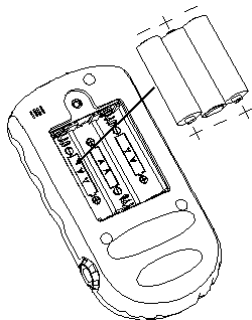

Figure 3
- 2) According to the polarity mark, insert three AA batteries into battery house, as shown in Figure 3.